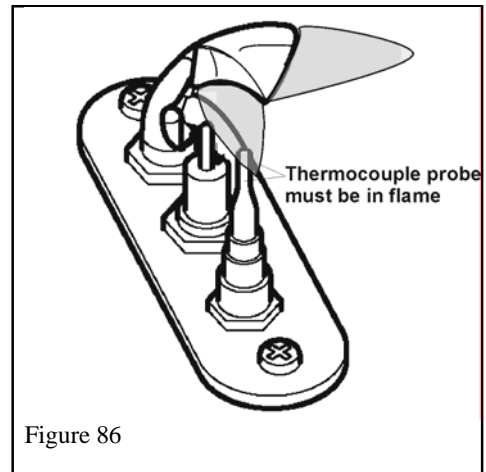

Figure 86
1. A periodic check of the pilot and burner flames should be made. Check after the fire has been on for at least 30 minutes. The pilot flame must cover the tip of the thermocouple probe. The main burner flame pattern will vary from appliance to appliance depending on the type of installation and climatic conditions. See figures 86 & 87.